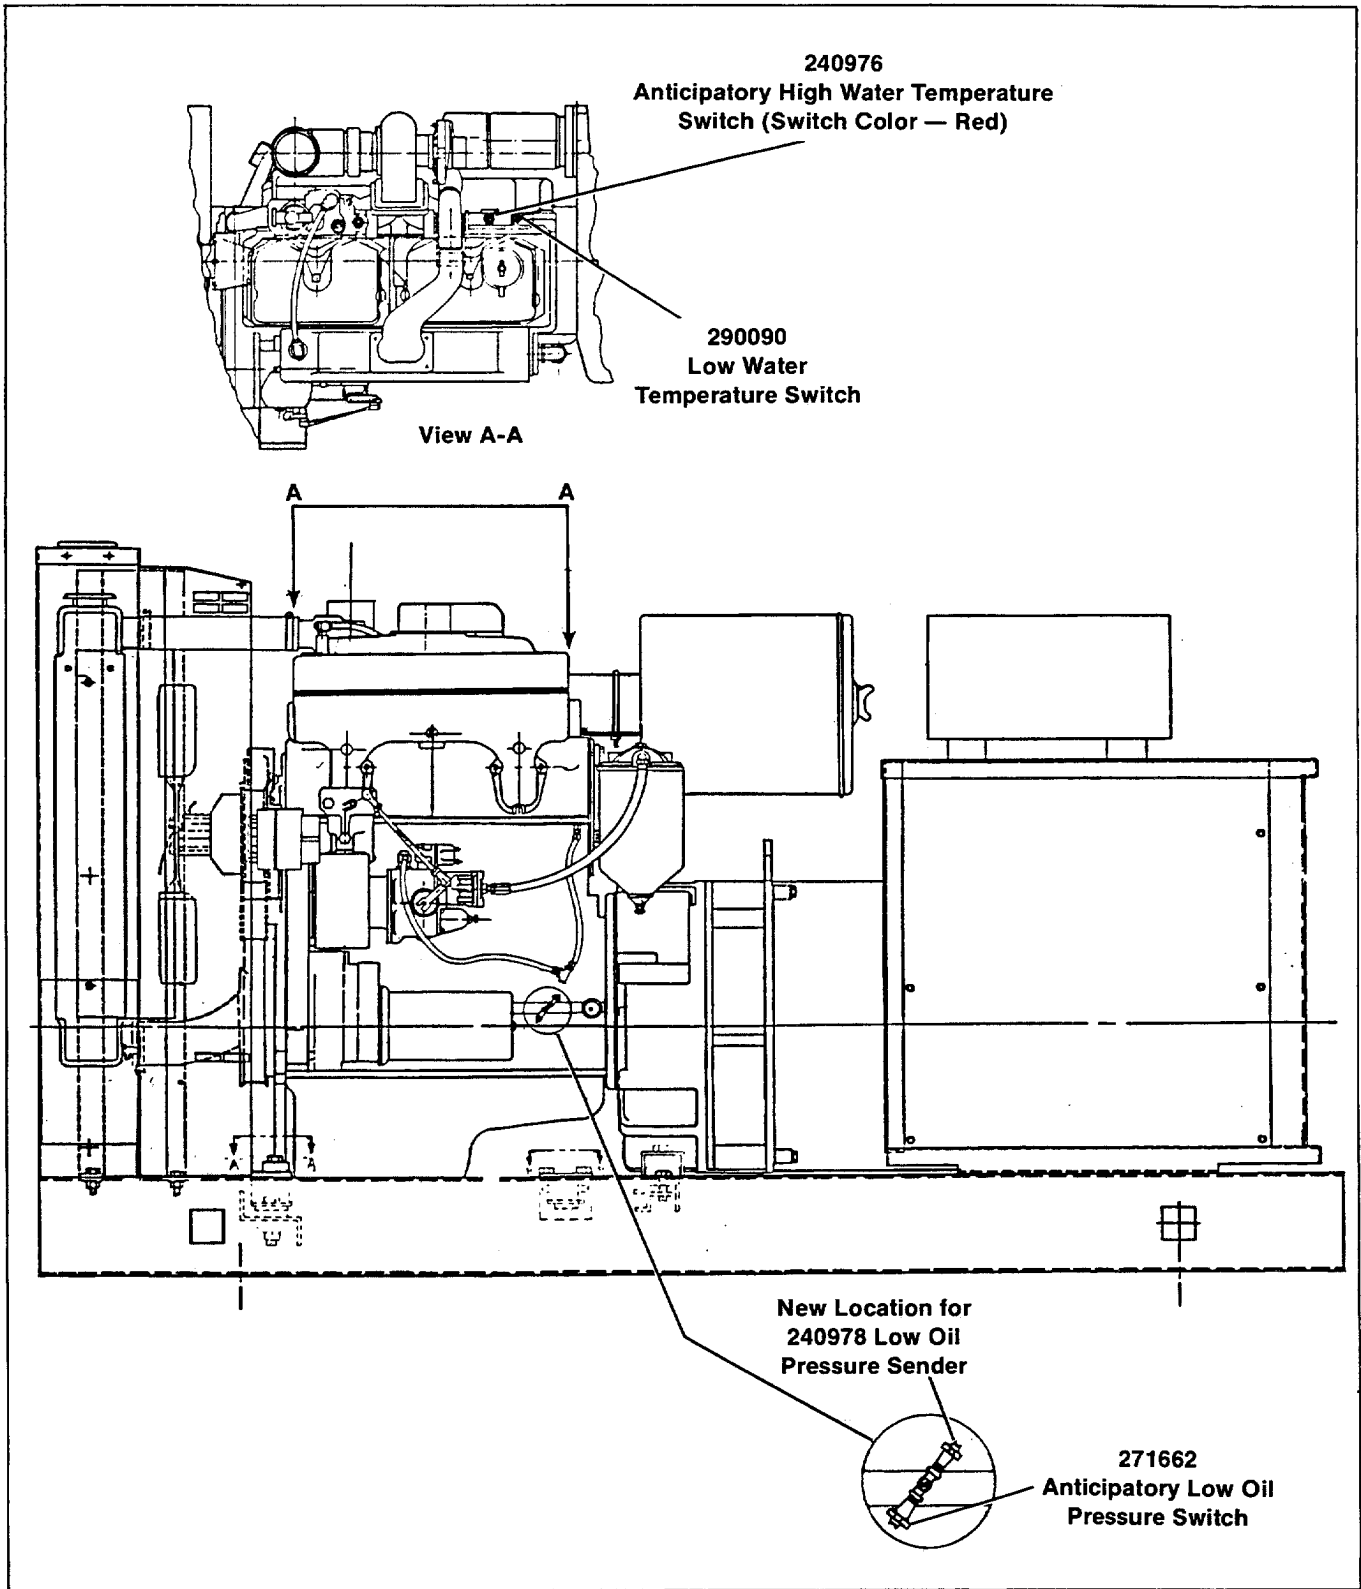

Figure 1. Switch Locations
3. Remove pipe plugs for low water temperature and anticipatory high water switches. See Figure 1.
7. Install cross pipe assembly into hole where low oil pressure sender was removed. Locate open ends where there will be maximum clearance for sender and switch. See Figure 1.
8. Coat threads of switches and sender with pipe sealant, and install in locations shown in Figure 1.